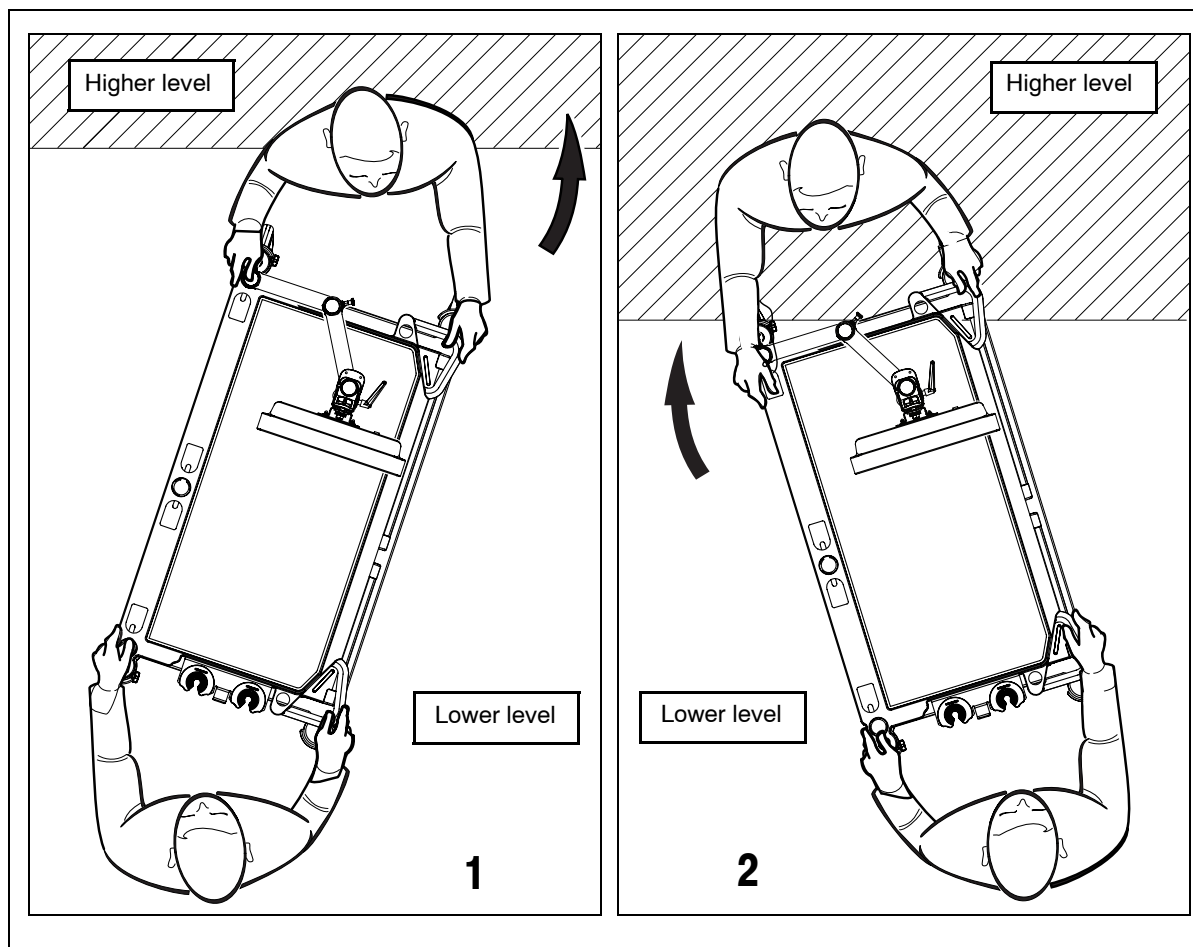

**Figure 6.2**
7. It is recommended that the mobile workstation is manoeuvred over lips or door thresholds diagonally (see Figure 6.2) , that is one castor at a time, to minimise the potential for tipping.